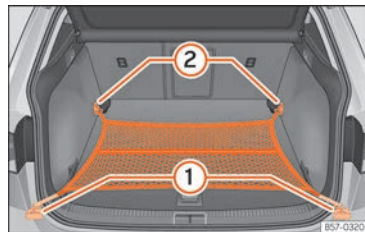

Fig. 173 In the boot: net bag hooked up at floor level.
- Secure the net hooks to the fastening rings >>> Fig. 173 ① and ② >>> ⚠. The bag zip should be facing upwards.